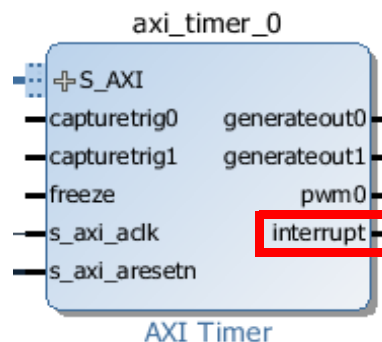

Figure 2.27: AXI Timer in the block design
- (f) Note that in Figure 2.27 the AXI Timer features an interrupt request, which requires connection to the Zynq PS. However, we already have an interrupt connected to the input of the PS. This input is a shared interrupt port, and so accepts multiple interrupts via one signal. We therefore require an additional IP block to concatenate these two interrupt requests into one signal. In the canvas, right-click anywhere and select **Add IP**. Enter **concat** in the search field and add the IP **Concat** to the design.